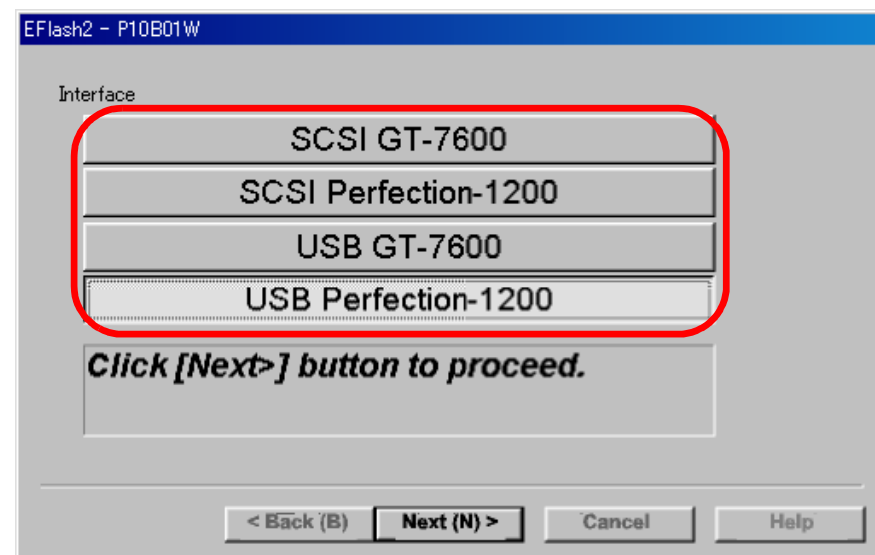

Figure 5-2. P10B01W (2)
3. When a screen shown in Figure 5-2 appears, select one of the products you wish to update by clicking the product name or using the cursor keys.